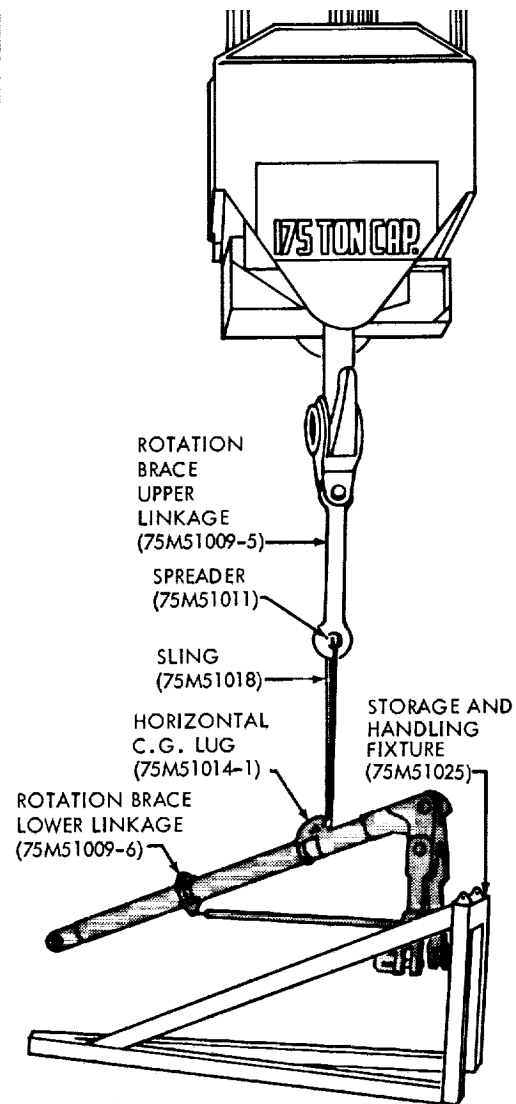

Figure 4-2. Aft Rotational Brace Hoisting
- d. Rig sling (75M51018) to rotation brace lower linkage (75M51009-6) by attachment to the single lug (75M51014-1) marked "Horiz. C.G." and install three guide lines for guidance per figure 4-2.